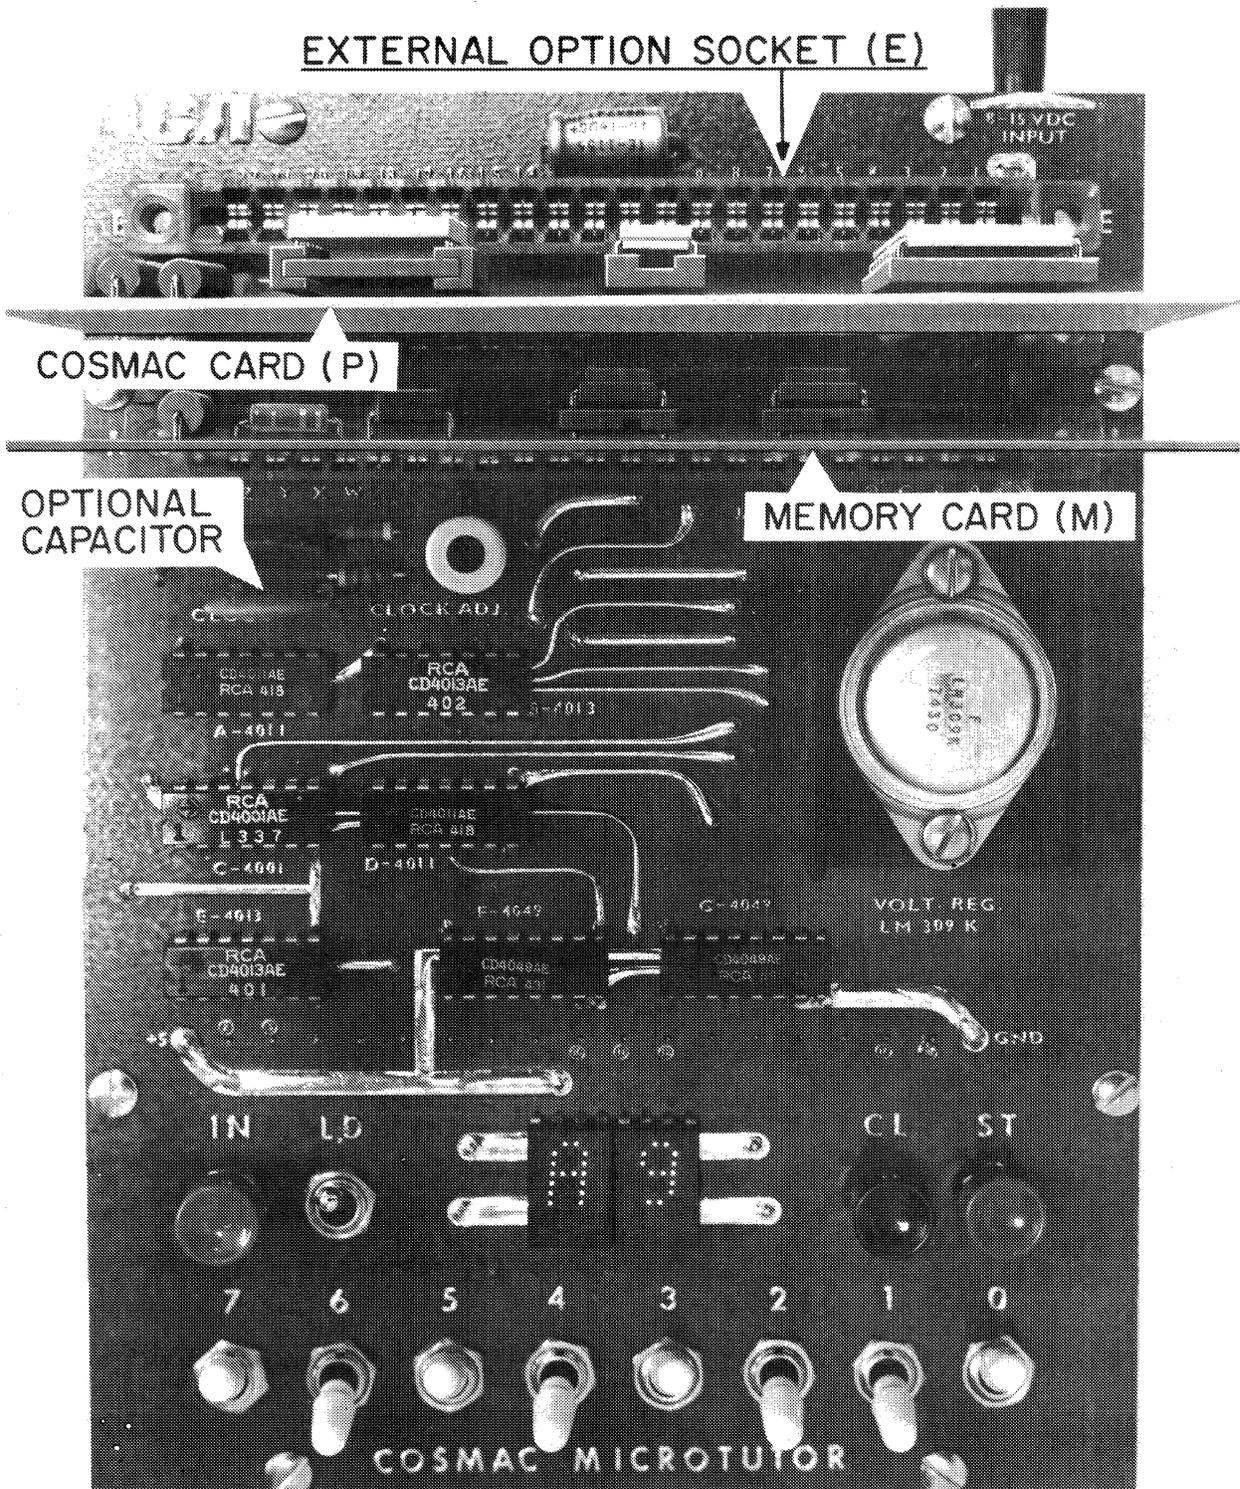

Fig. 1—MICROTUTOR Layout.
Figure 1 shows what MICROTUTOR looks like in case you don't have one. If you do have one, plug the memory card into the first socket (M). Plug the COSMAC microprocessor into the middle socket (P). The component (bumpy) side of these cards should face the rear. Don't apply power until the M and P cards are in unless you enjoy replacing integrated circuits. Likewise, never remove a card unless the power is off.